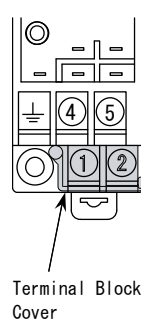

Fig. 1
The terminals for power supply connection (① and ②) are covered with a plastic plate for safety (see Fig. 1).